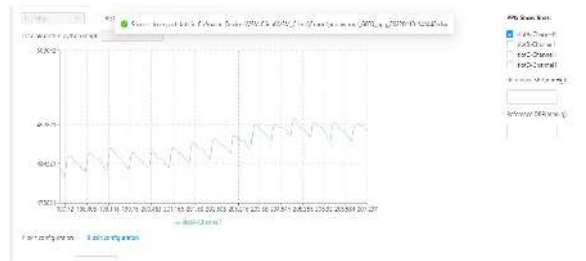
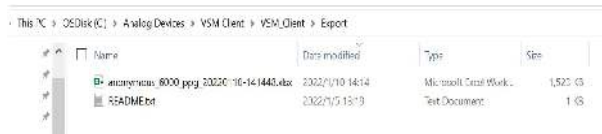

Figure 42. Export Successful
Figure 43. Export Folder
5. Click **Start Export** to begin exporting the data received (see Figure 40), and click **Stop Export** to stop exporting the data locally (see Figure 41). The exported data is saved in an .xlsx file. Before clicking **Stop Export**, clear the **Enable Y-axis Adaptation** check box. If this check box is selected, the data may fail to save. If the export is successful, a **Success to export data** pop-up appears (see Figure 42) noting the location of the .xlsx file as follows: **C:\Analog Devices\VSM Client\VSM_Client\Export**. In the **Export** folder, the file name notes the date, time, and corresponding function of the export (see Figure 43).